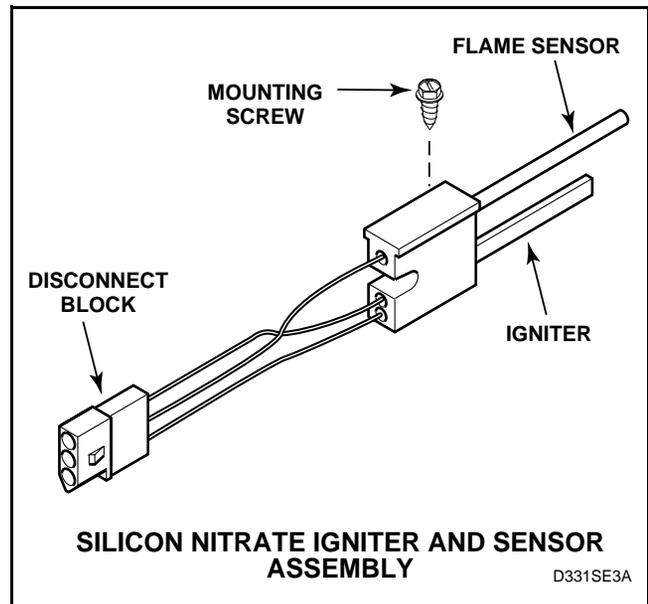

Figure 41
- e. Put first meter probe on terminal of flame sensor wire and second meter probe on terminal 2 of disconnect block. See *Figure 41*.
- d. Set test meter to read Ohms and put meter probes on terminals 1 and 3 of igniter disconnect block. See *Figure 41*.